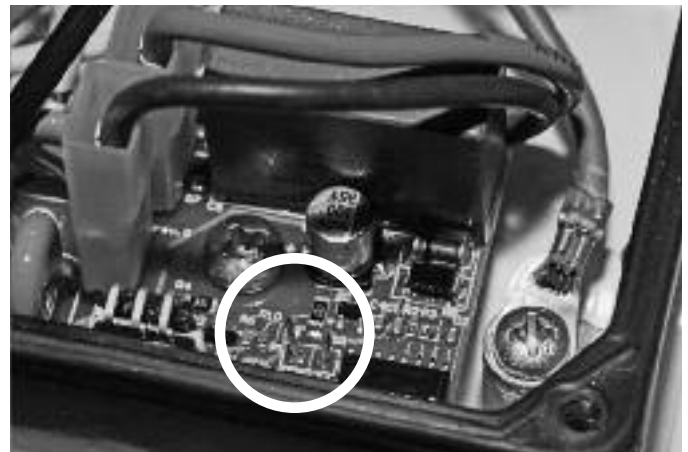

Figure 3: Timer Jumper Wire – Cut and Removed
4. Cut and remove a small section of the jumper as shown in fig. 3.